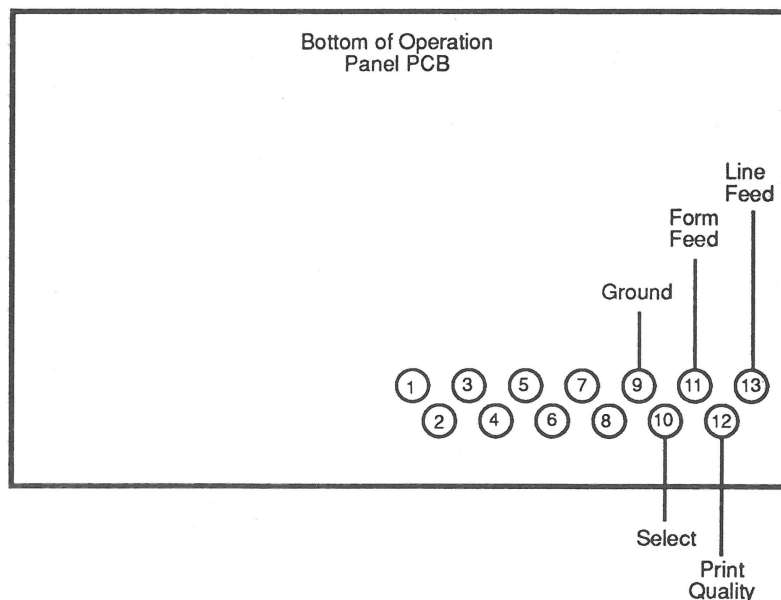

Figure 3-6
- b) Place the probes on pin 9 and pin 11 of the operation panel connector (**Figure 3-6**). The reading should indicate **open**.